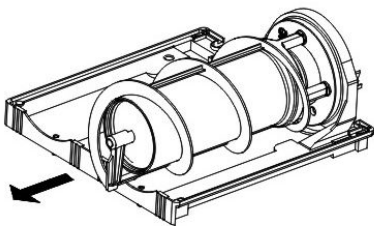
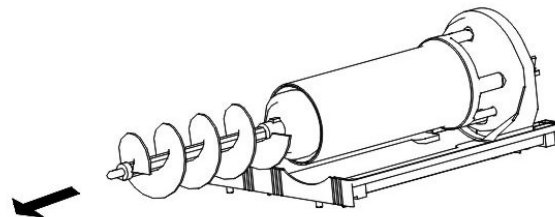

figure 3
figure 4
4. Slide the outer spiral out (fig.3) and then the inner auger (fig.4)